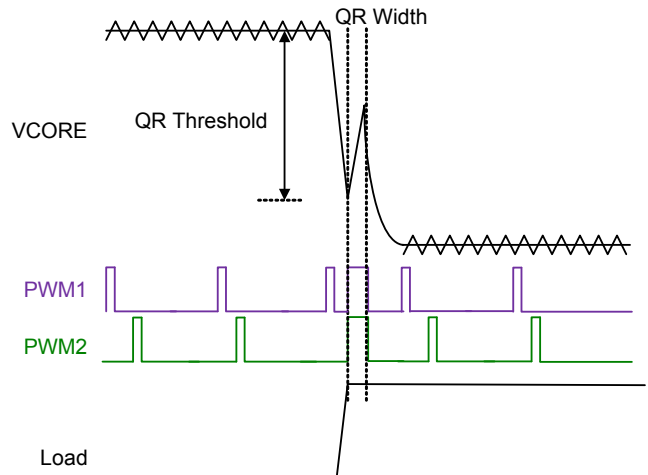

Figure 25. Quick Response Mechanism
**Quick Response (QR) Mechanism**
When the transient load step-up becomes quite large, it is difficult for loop response to meet the energy transfer. Hence, that output voltage generate undershoot to fail specification. The RT3601BC has Quick Response (QR) mechanism being able to improve this issue. It adopts a nonlinear control mechanism which can disable interleaving function and simultaneously turn on all UGATE one pulse at instantaneous step-up transient load to restrain the output voltage drooping. Figure 25 shows the QR behavior.